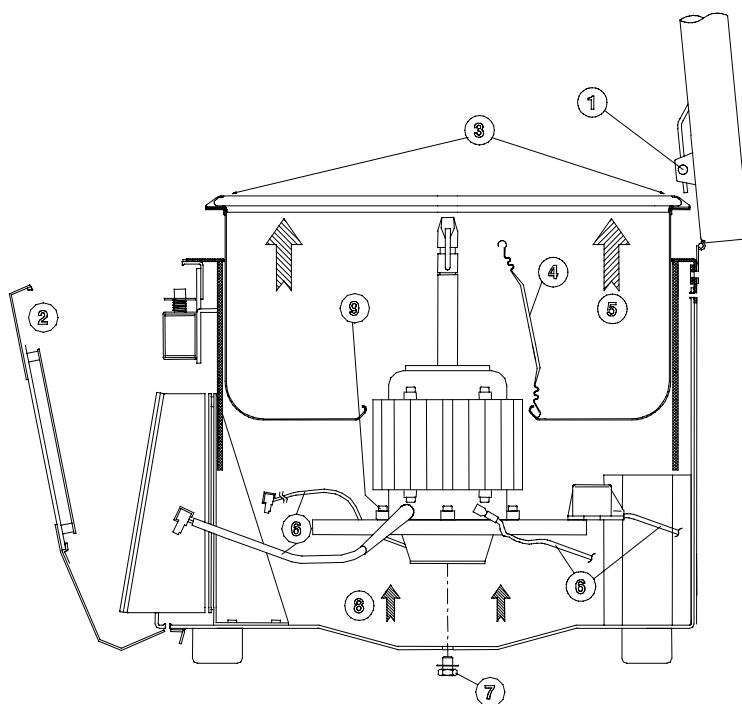

Fig. 11
5.2 Lid replacement (see Fig. 11)
5.3 Centrifuge bowl removal (see Fig. 11)
5.5 Motor replacement (see Fig. 11)
- Remove the front panel unscrewing the five screws (see Fig. 11) and disconnect:
3. Unscrew the four Phillips screws ①.